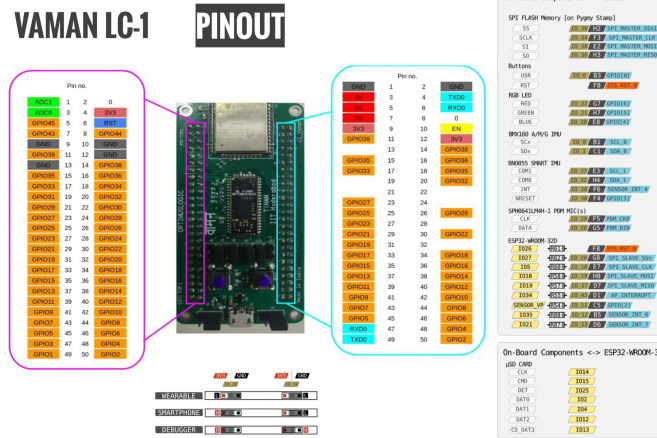

Fig. 1.1: Vaman pins. Right side represents ESP32 and left side M4-FPGA.
3. The Vaman pin diagram is available in Figure 1.1.